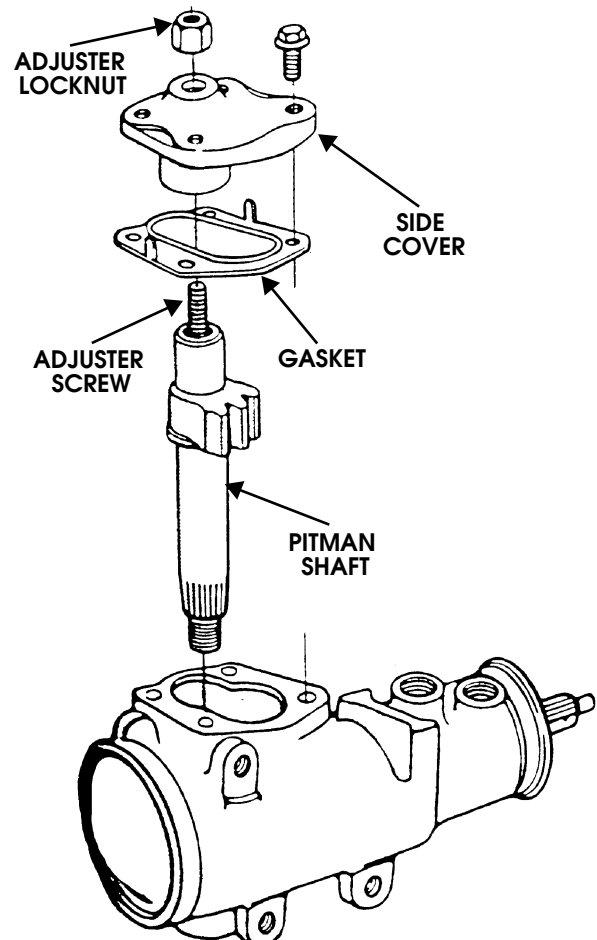

Figure 8-31: Side Cover and Sector Shaft
4. Remove pitman shaft, side cover, and gasket (Figure 8-31).